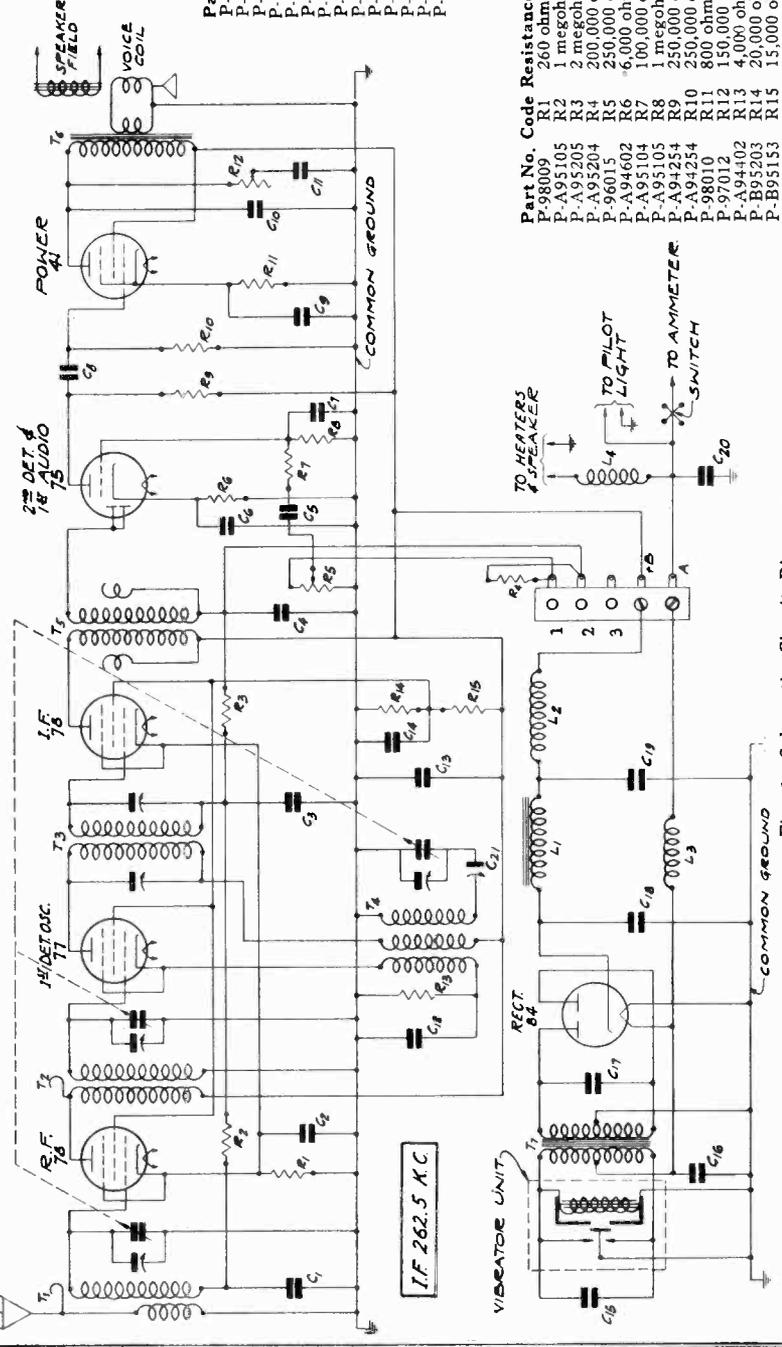

Fig. 1—Schematic Circuit Diagram.
**Do not take the chassis out of the box.** First set the signal generator at approximately 262.5 K. C. Connect the antenna lead from the generator to the control grid of the I. F. 78 tube, through a .05 mfd. condenser. The ground lead of the generator goes to the ground of the receiver. Turn the rotor plates of the tuning condenser completely out and keep the signal weak enough to prevent A. V. C. action. Note from Fig. 1 that the second I. F. transformer is self tuned and cannot be adjusted. Adjust the frequency of the signal generator until the output meter shows maximum output. The intermediate frequency setting of the generator is then correct, although it may be a very small percentage higher or lower than 262.5 K. C.